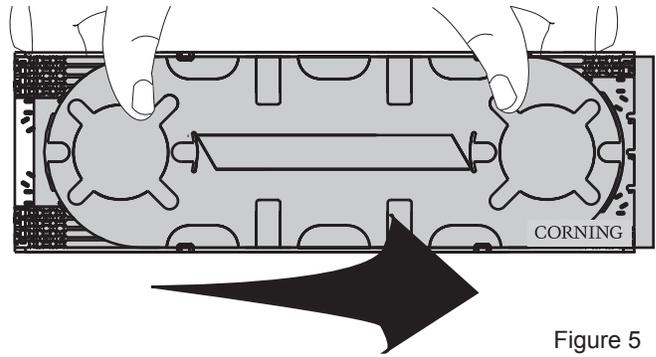

Figure 5
Step 1: Remove the cover by sliding it to the right until the larger notches are aligned under the tabs on the tray walls and lifting the cover up. Hold the tray as shown in Figure 5.